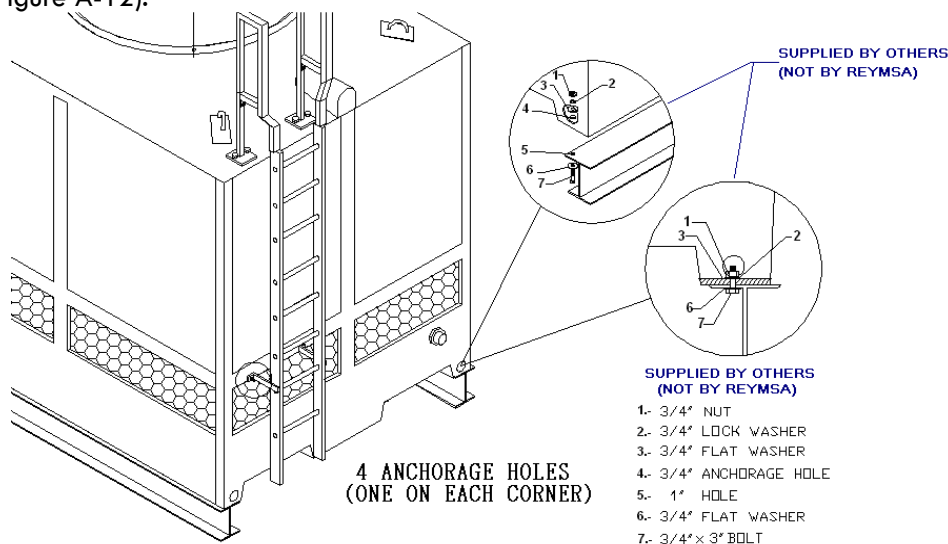

Figure A-12: Installation - Typical Anchorage for Double Fan Tower
- E. Place the Tower Section (Basin and Body) on top of the base structure, making sure that the anchorage holes on the bottom of the tower are aligned with the perforations on the base. Then proceed to bolt it down and secure it with stainless steel nut and bolt sets (supplied by others, see Figure A-12).